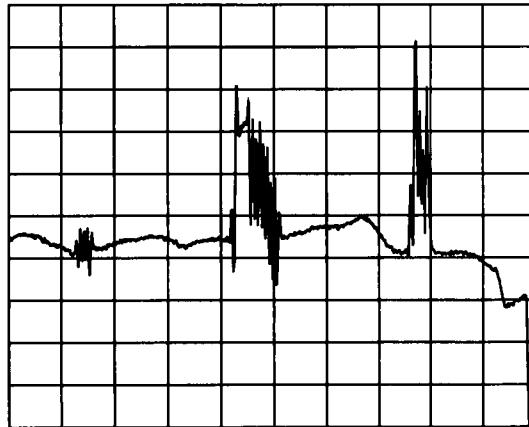

Figure 5-58. Oscilloscope Display with Squegging Present
32. Using the DUT's front panel rotary knob (RPG), vary the ALC level from -20 dBm to $+20$ dBm. Look for squegging as shown in Figure 5-58. As the power level is increased, you will need to decrease the vertical sensitivity (CHAN A) and adjust the vertical positions on the oscilloscope. If any squegging occurs, examine the ENTRY DISPLAY to determine the requested ALC level. If the ALC level is at or below the maximum specified leveled power, adjust A24R5 (X2C) counter-clockwise to eliminate the squegging. If the ALC level is above maximum leveled power, what you are seeing is probably the RF output going unlevelled and cannot be adjusted out.
Squegging on the oscilloscope display may appear as shown in Figure 5-58 (power spikes and oscillations) or it may appear as power spikes without the oscillations. In either case the appropriate adjustment should be made to eliminate the squegging.